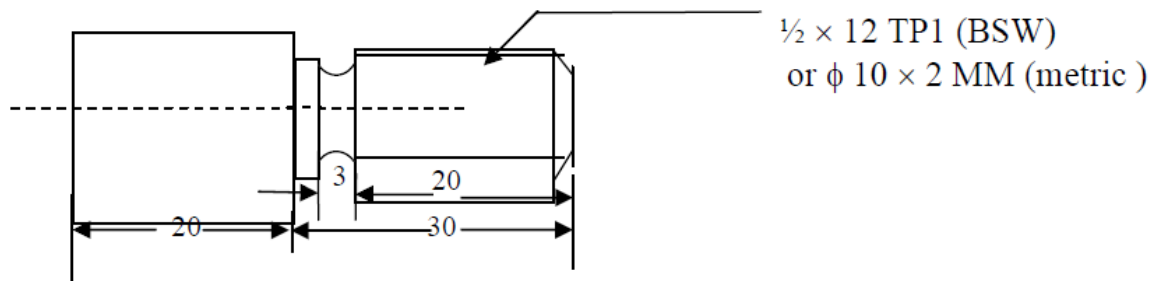

Fig.2: Job for practice on a lathe
- ii) MACHINING (in 3 days or 9 hours); To make a pin as shown in Fig.2 from a $\square 20 \text{ mm}$ mild steel rod in a lathe.